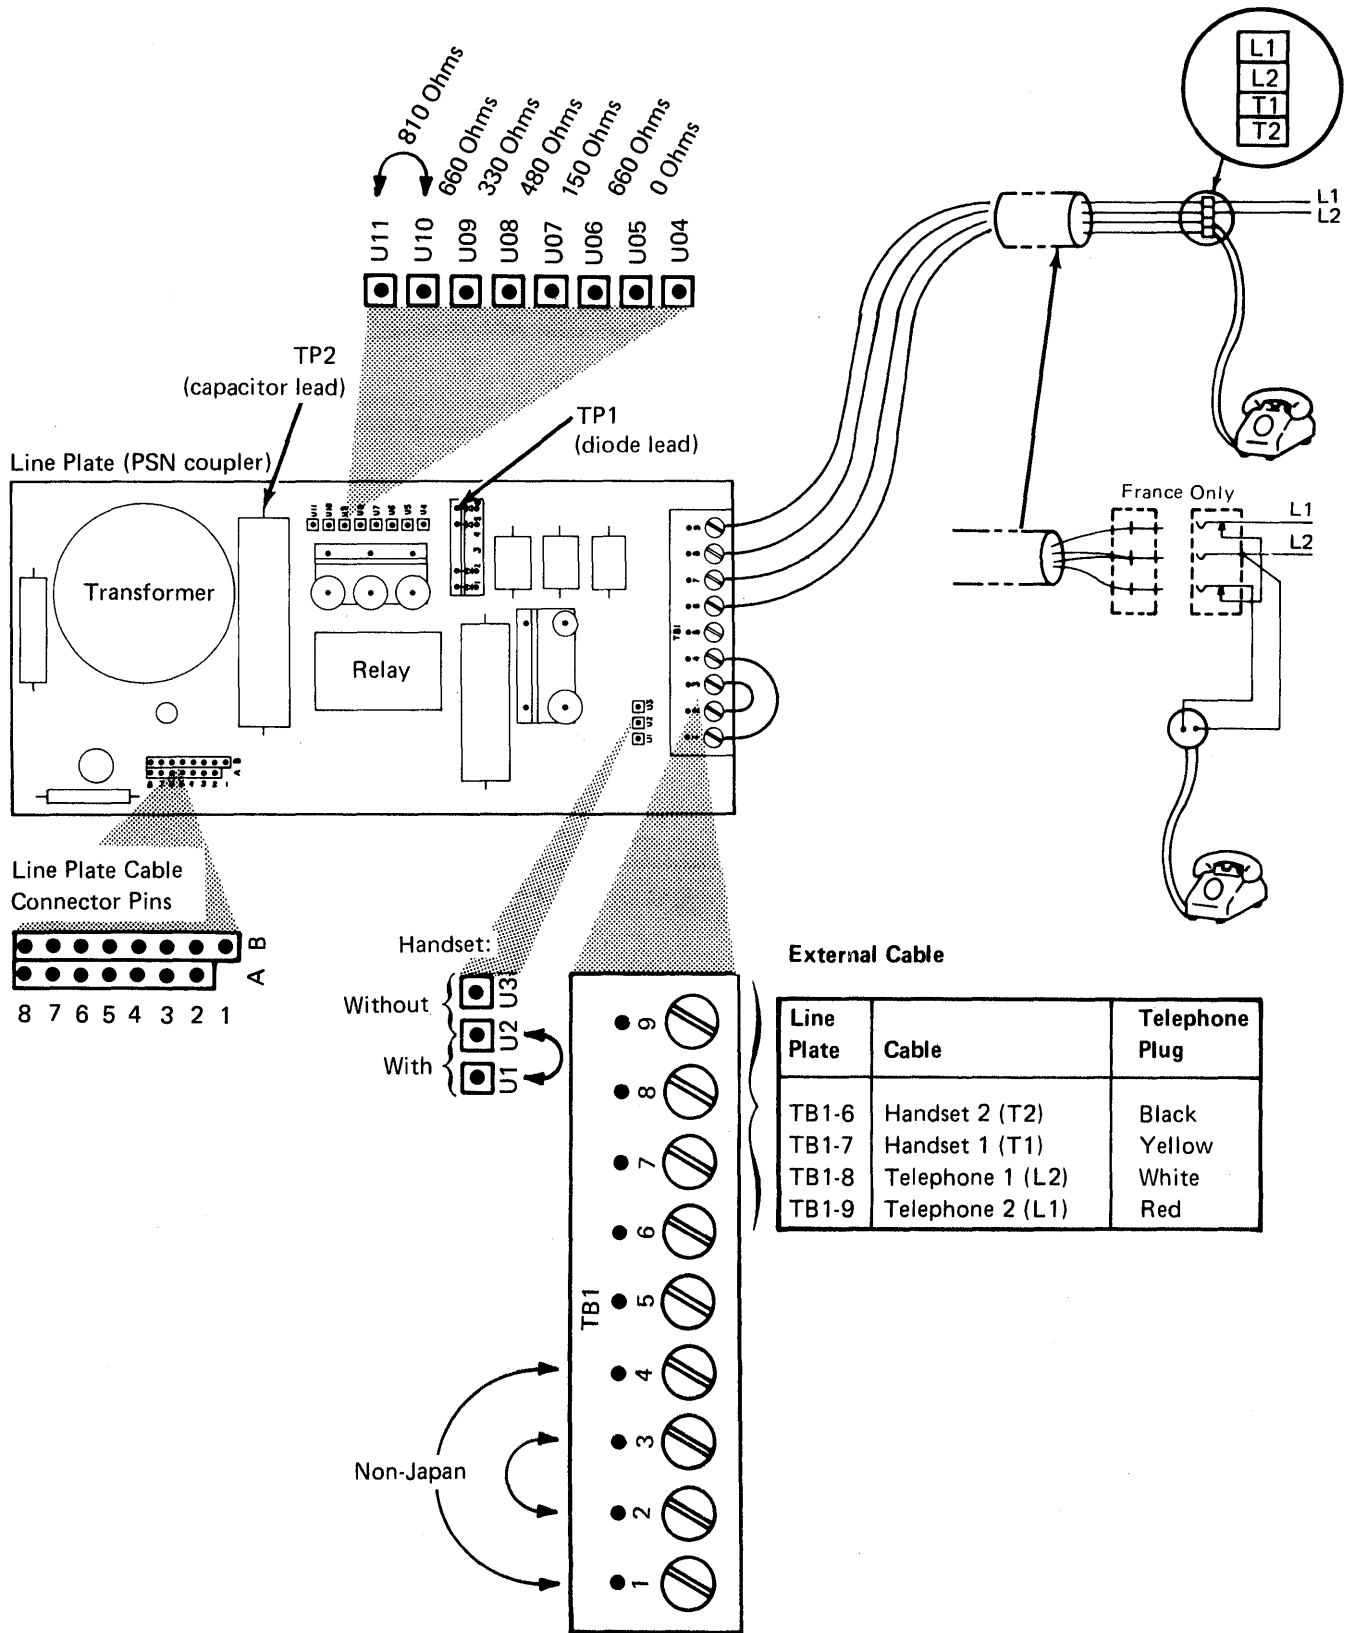

Figure 31-24. World Trade PSN Line Plate and Cable Connections
The line plates are located under the top cover (see Figure 31-2). The one on the left side is for line 1, and the one on the right side is for line 2. The plates are shipped from the plant with a jumper between U10 and U11 (see Figure 31-24) which is the jumper location for the lowest direct current.
2. Connect a DC voltmeter across TP1 (+) and TP2 (-) on the line plate. See Figure 31-24 for the locations of TP1 and TP2.